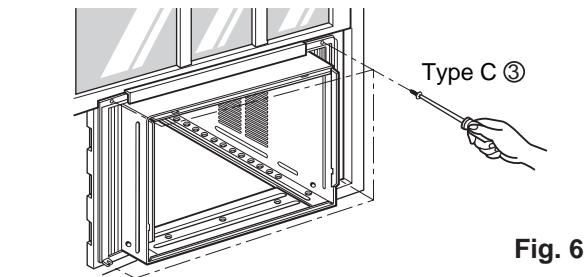

Fig. 6
9. Attach each Frame Curtain ⑤ to the window sash using screws ③ (Type C). (Fig. 6)